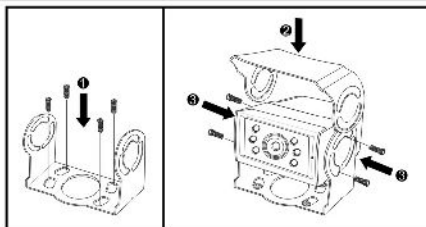

Figure 1. Installing the Camera
- Fasten the camera mounting bracket, using the 4 self-tapping Philips screws, to the desired mounting surface, as shown in the Step 1 arrows of Figure 1.
- Position the camera in the camera mounting bracket. Adjust the camera to the proper angle, and then attach the camera and sun visor to the camera mounting bracket using the 4 supplied hex-head machine screws (with washers), as shown in the **Step 2 and Step 3** arrows of Figure 1.